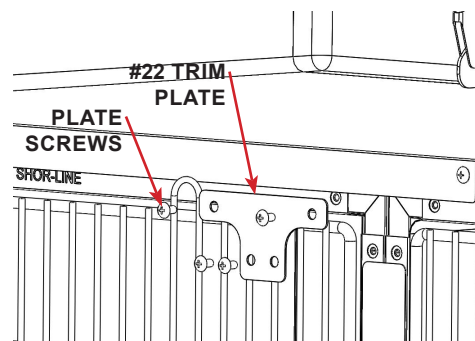

FIGURE 2.44 - Trim Plate #22
**STEP 21:** Install, but do NOT fully tighten screws, trim plate (#22) using the screws removed in the previous step. See FIGURE 2.44